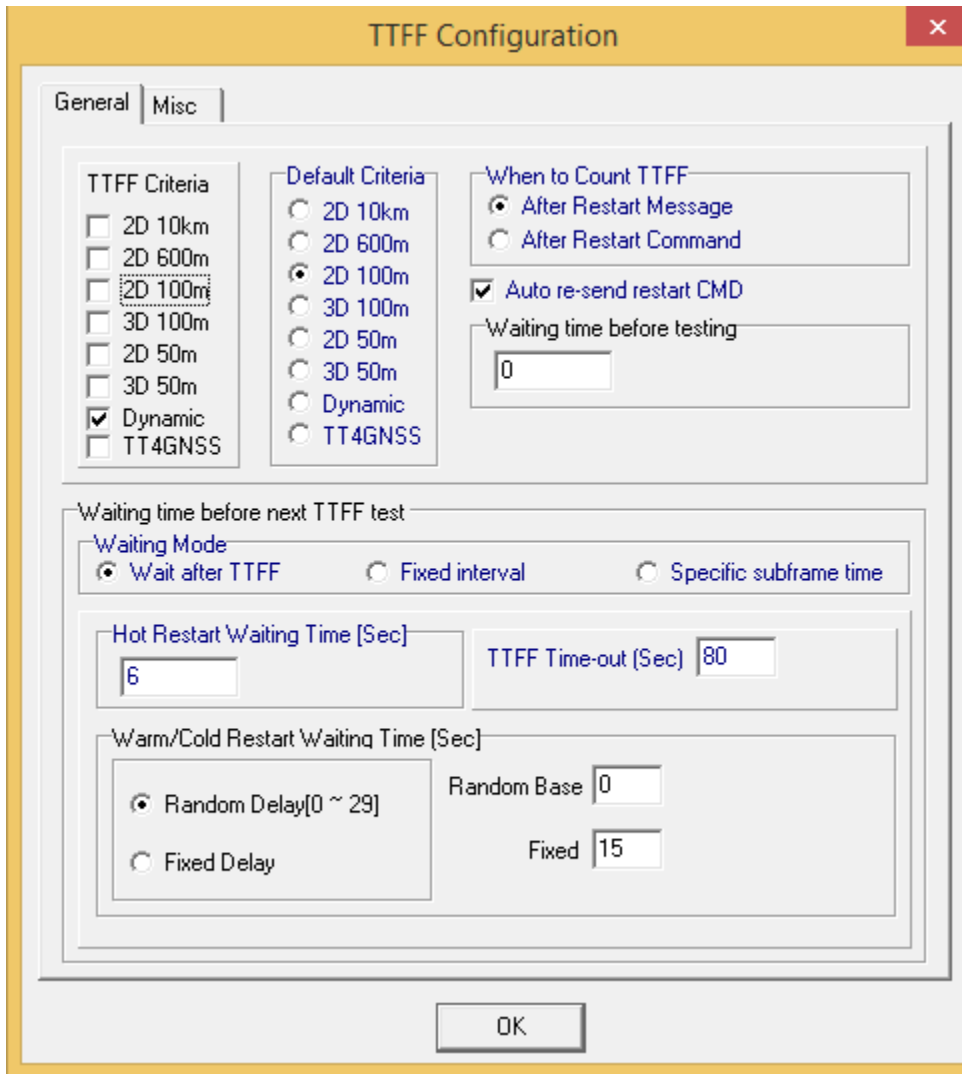

Figure 10 – TTF Configuration
- “Config” – test configurations. When you press this button you will have the following window opened (see figure 10):